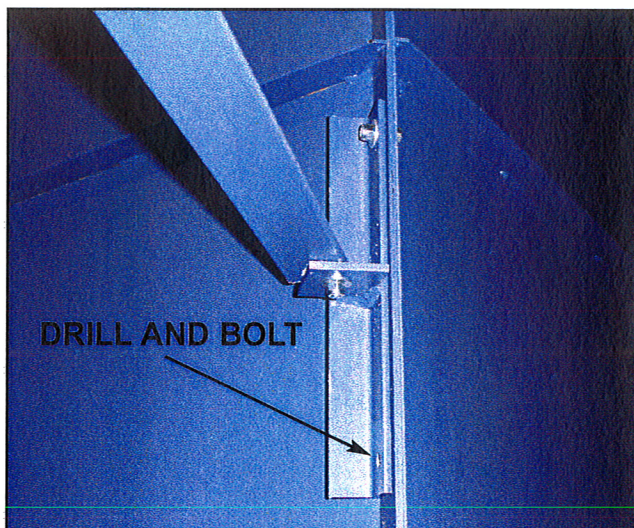

Figure 12
7. Use angle attachments to brace unit. Drill through unit flanges to attach to unit. Use shipping angles that are provided to attach to the customer's building, mezzanine, etc. See Figure 12.